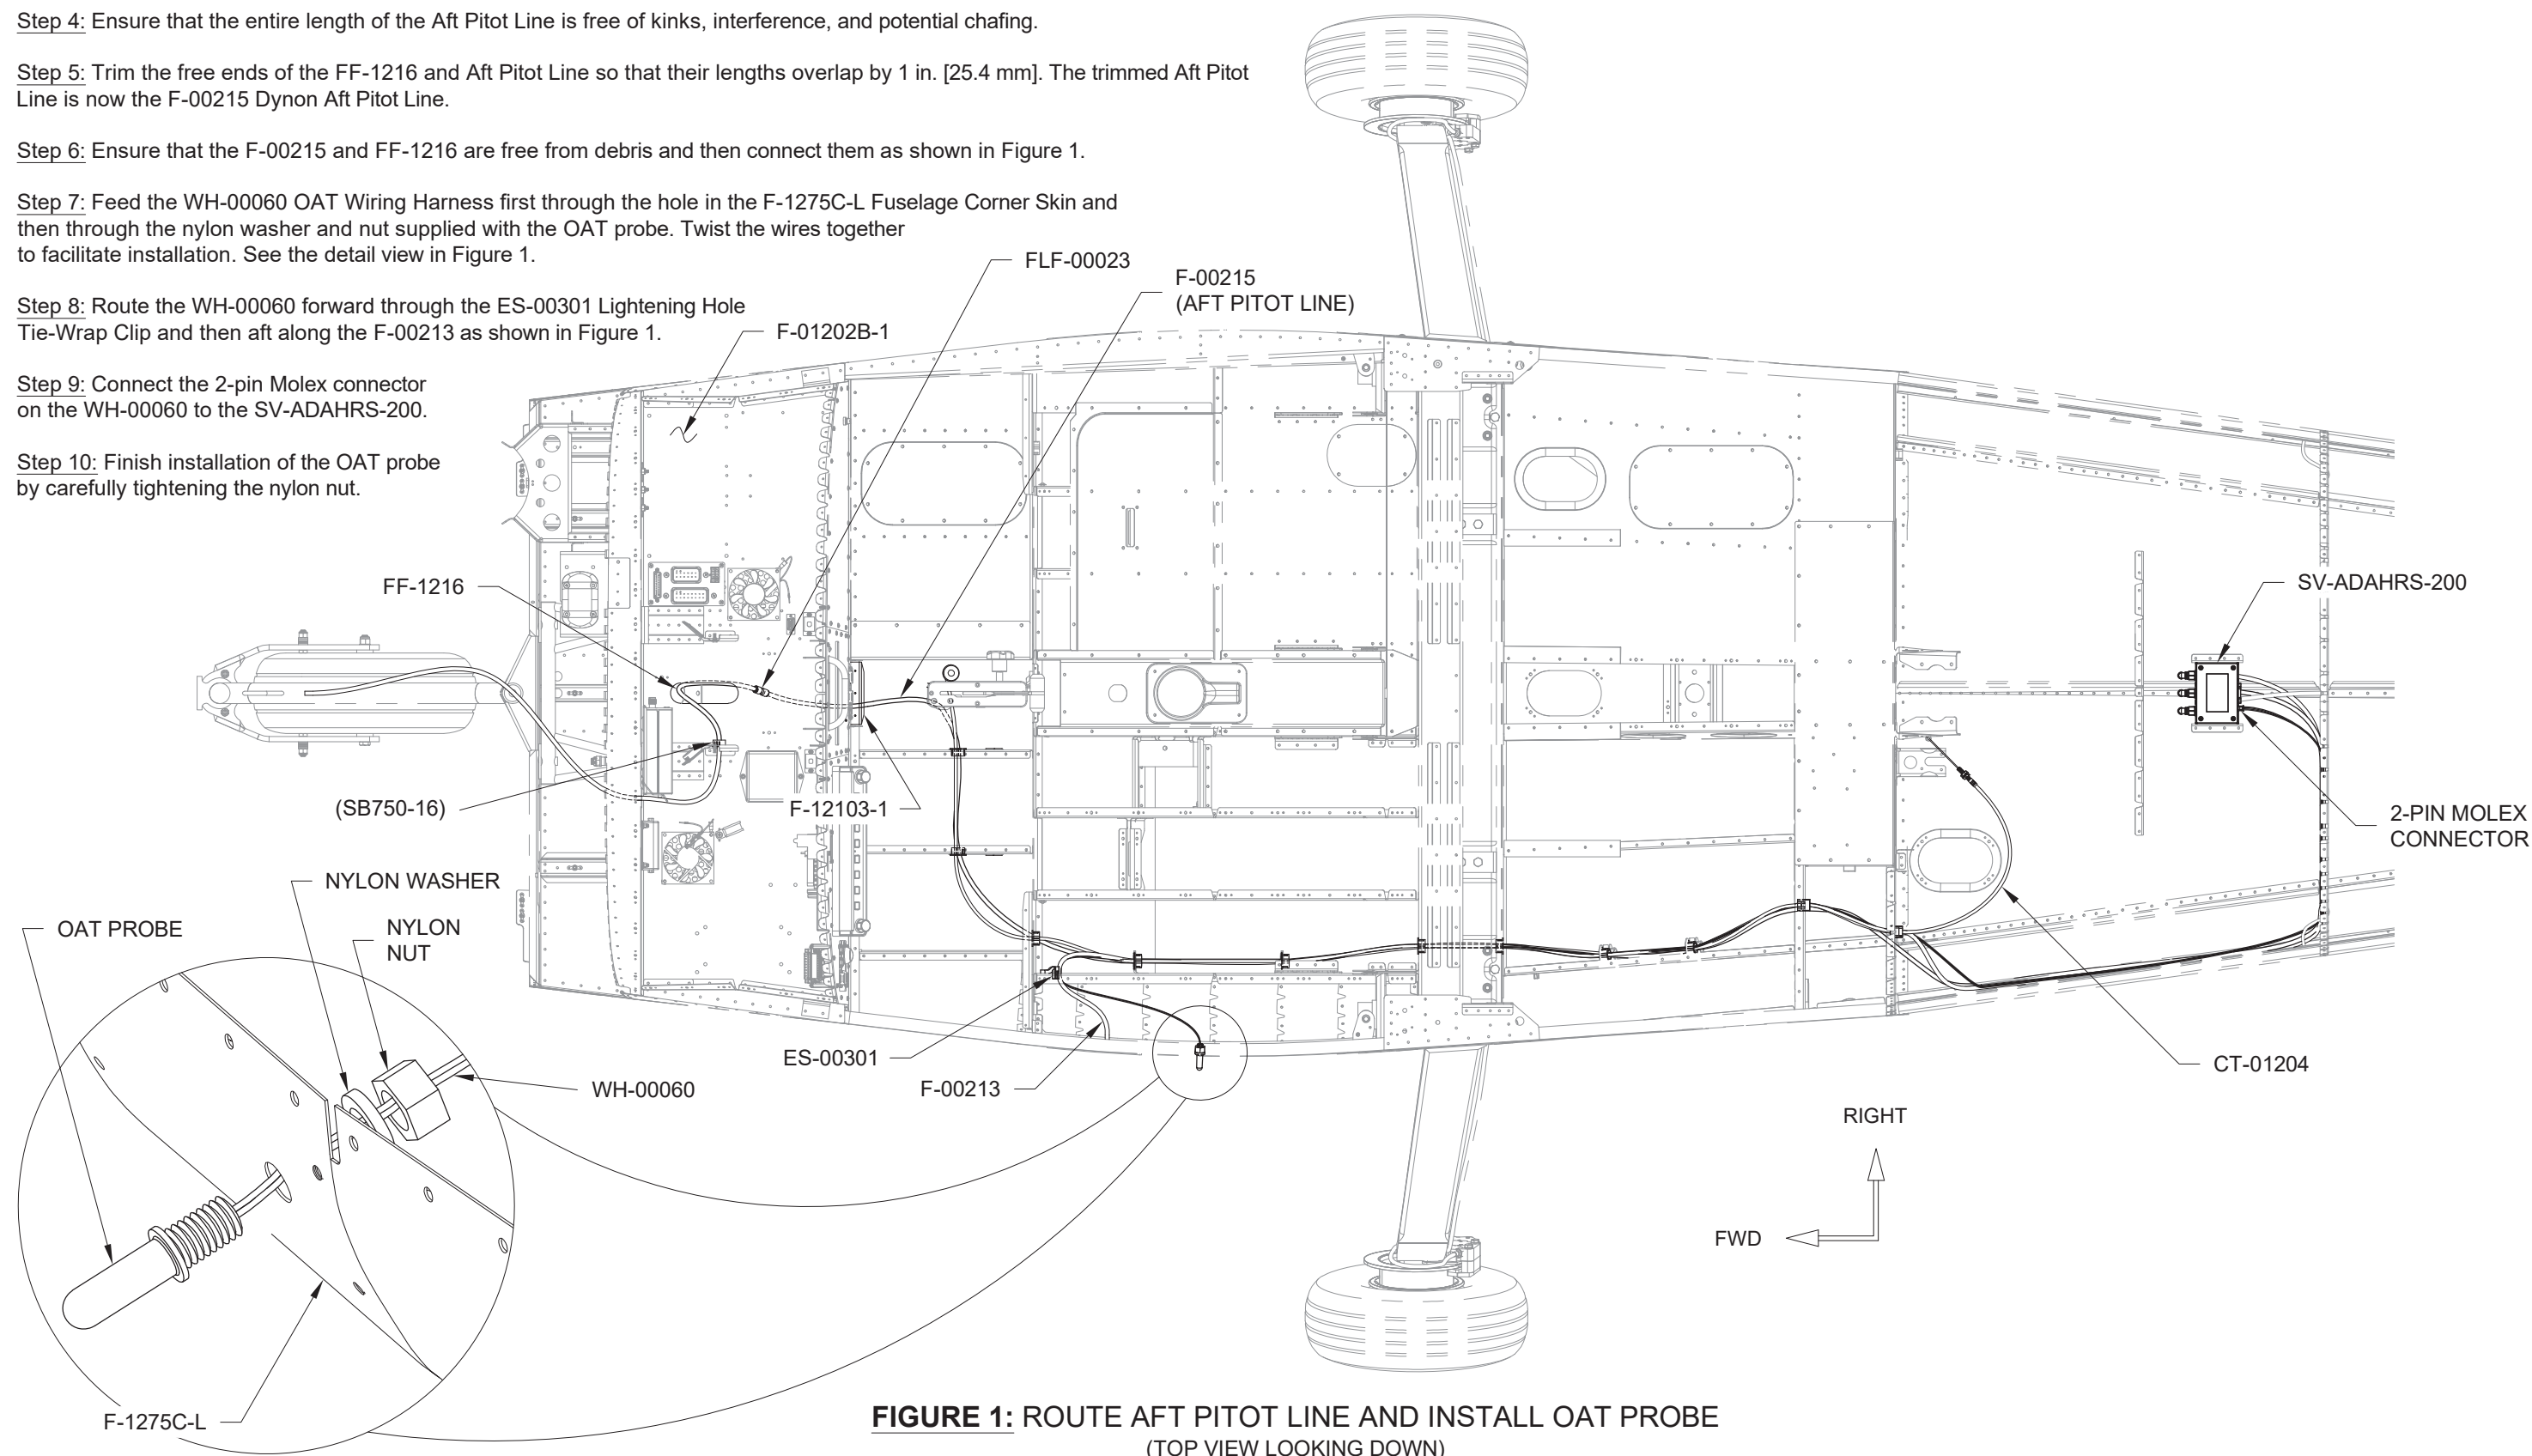

FIGURE 1: ROUTE AFT PITOT LINE AND INSTALL OAT PROBE
Step 7: Feed the WH-00060 OAT Wiring Harness first through the hole in the F-1275C-L Fuselage Corner Skin and then through the nylon washer and nut supplied with the OAT probe. Twist the wires together to facilitate installation. See the detail view in Figure 1.
Step 8: Route the WH-00060 forward through the ES-00301 Lightening Hole Tie-Wrap Clip and then aft along the F-00213 as shown in Figure 1.
Step 1: Attach a cushioned clamp to the F-01202B-1 Panel Base just aft of the fan as shown in Figure 1 on Page 42CiS/U-04.
Step 2: Gather the unsecured portions of the WH-00133 that lie forward of the instrument panels and route them through the larger snap bushings installed in the F-00055-L-1 & -R-1 GTR 200 Support Brackets. See Figure 1 on Page 42CiS/U-04.